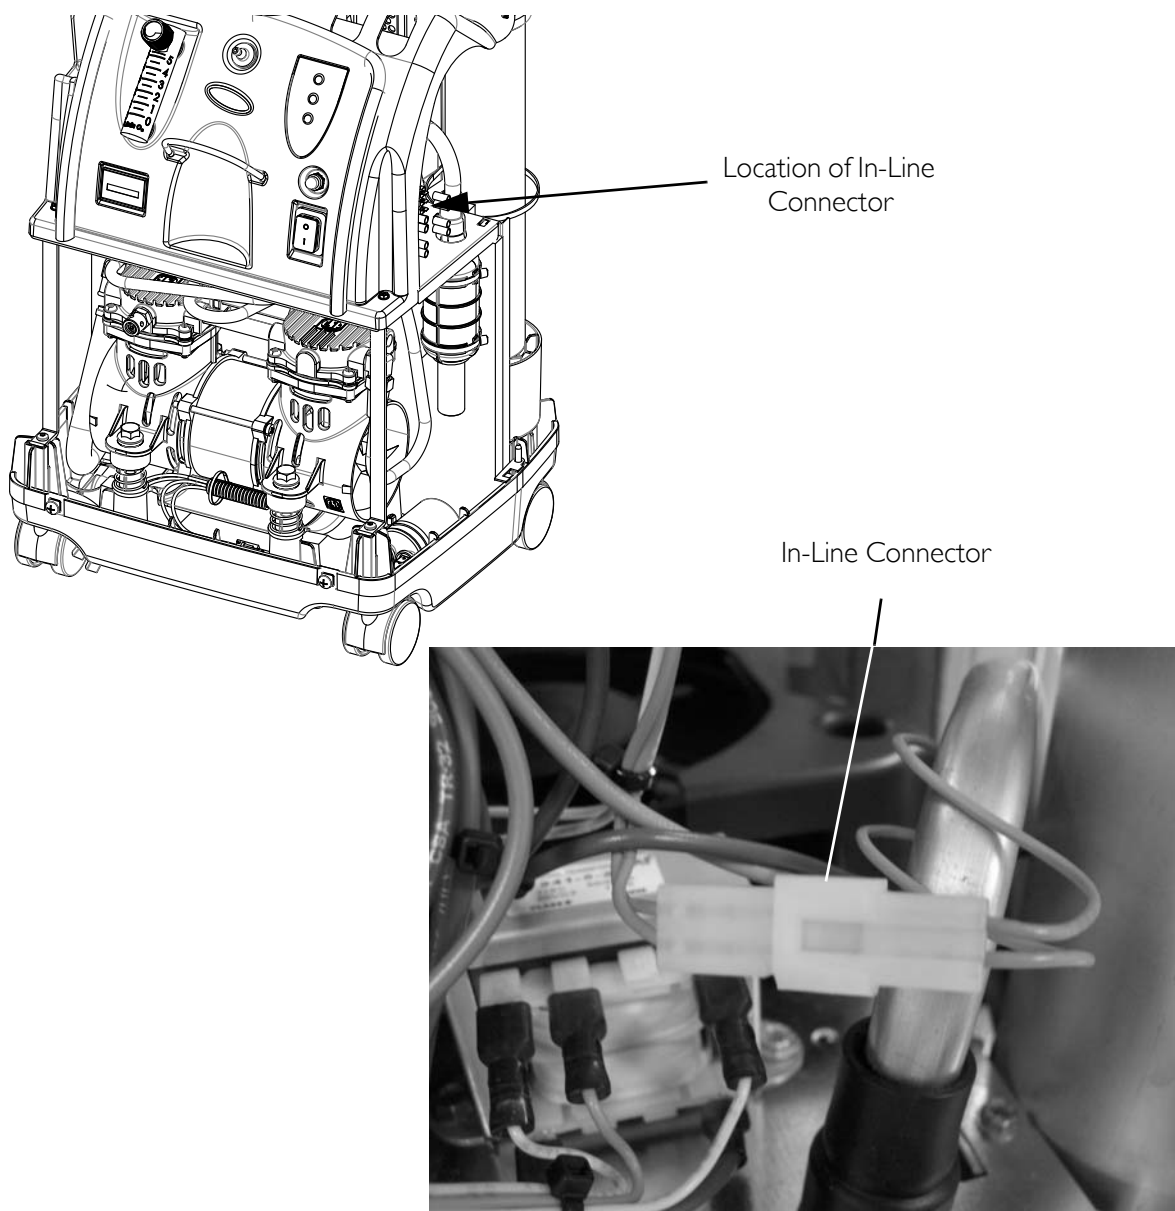

FIGURE 24.2 High Pressure Test
NOTE: For this procedure, refer to FIGURE 24.2 on page 88.
1. With the unit running and flow set at 5 L/min., disconnect in-line connector shown in FIGURE 24.2.
2. The main valve coil alarm should activate within 40 seconds. Refer to SensO2 Alarm Threshold on page 89 for shutdown mode (FIGURE 24.2).